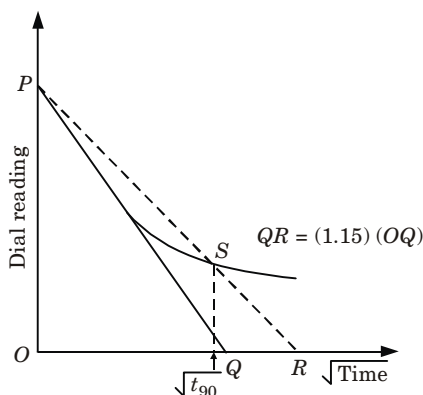

Fig. 3.16.2. Square-root-of-time method for determination of C_v .
1. Plot the dial reading and the corresponding square-root-of-time \sqrt{t} as shown in Fig. 3.16.2.
3. Draw a line PR such that $OR = (1.15) (OQ)$.